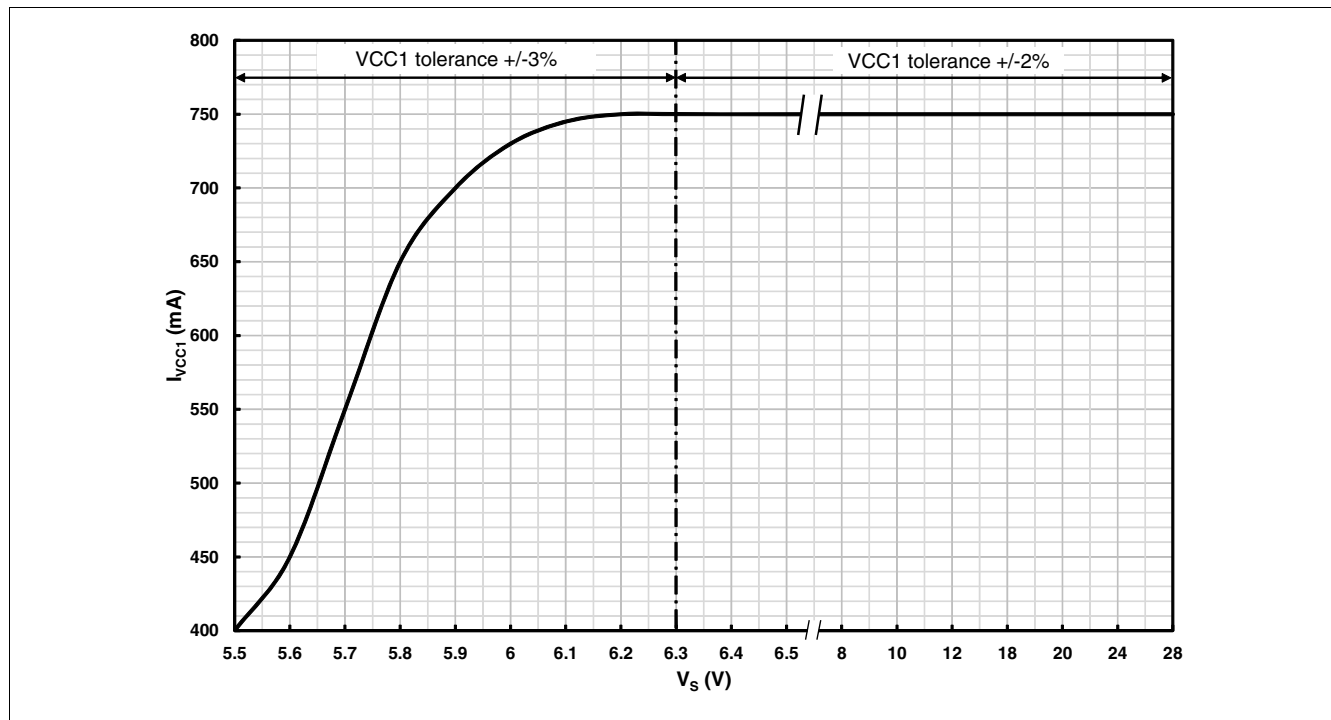

Figure 12 Maximum DCDC Buck current capability versus V_S .
1) Typical maximum current capability is given in Figure 12. The external components are in accordance with the application information (refer to Chapter 15).
Note: The Figure 12 is based on characterization results over temperature with external components specified in Chapter 15.1.